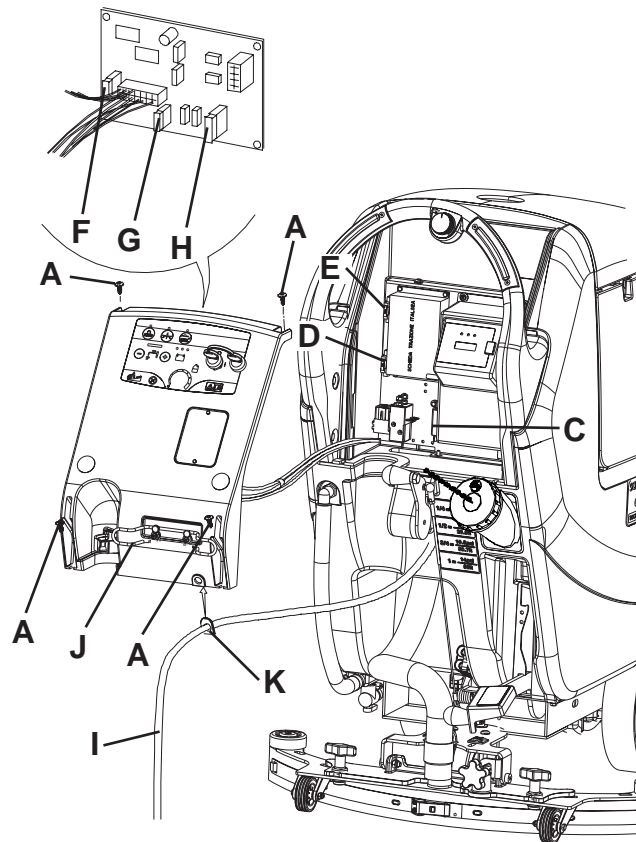

Figure 10
1. Disconnect the battery connector (12).
2. Move aside the recovery water drain hose (16).
3. Remove the battery charger cable (I, Fig. 10), if equipped, from the cable holder (J).
4. Remove the screws (A) and carefully move aside the panel (B) by disengaging the grommet (K) from its housing on the panel (B).